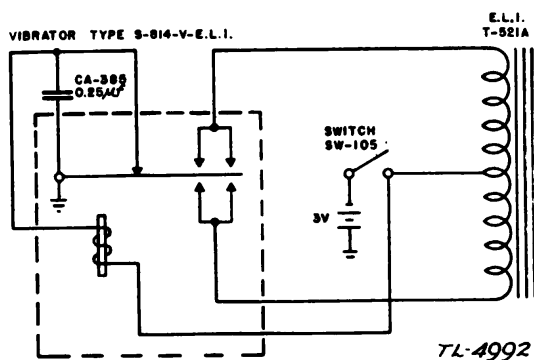

FIGURE 4.—Converter M-222—functional diagram of input circuit.
a. Input circuit.—The input circuit (fig. 4) consists of the vibrator (S-814-V-E.L.I.), the tapped transformer primary, the ON-OFF switch SW-105, and the actuating point capacitor CA-385. Its